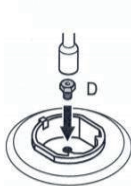

Figure 19.2
Fix the injector (D) you want to convert as shown in the Figure 19.2 (see Table 1).